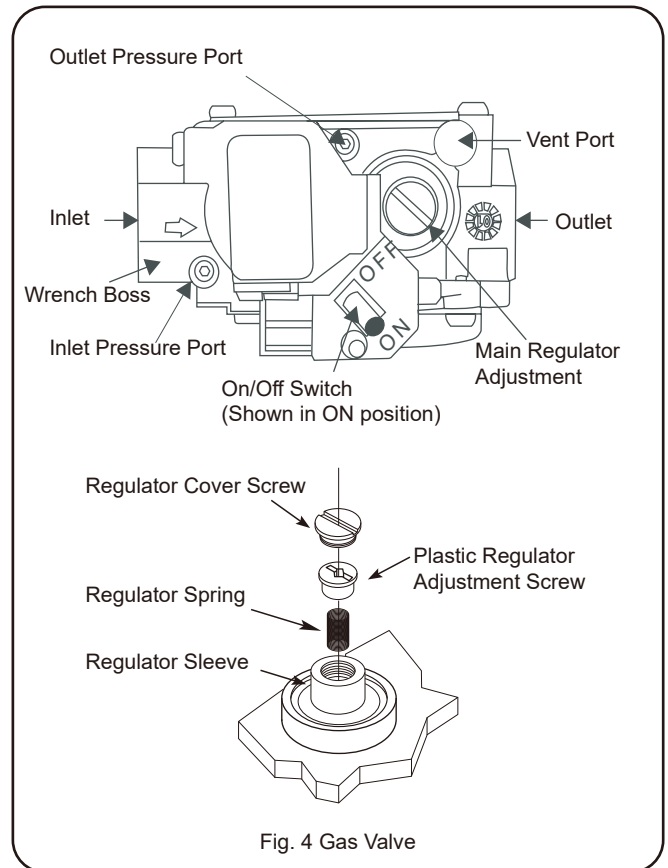

Fig. 4 Gas Valve
1. With a 3/32 inch hex wrench, remove the manifold pressure tap plug located on the outlet side of the gas valve. Refer to Figure 4.
4. Allow the furnace to operate for three (3) minutes and then check the manifold pressure. For LP gas installations, the manifold pressure should be set to 10" WC. If the manifold pressure is not set to the appropriate pressure, then it must be adjusted.
1. If the manifold pressure must be adjusted, then remove the protective cap from the top of the gas valve regulator, as shown in Figure 4.